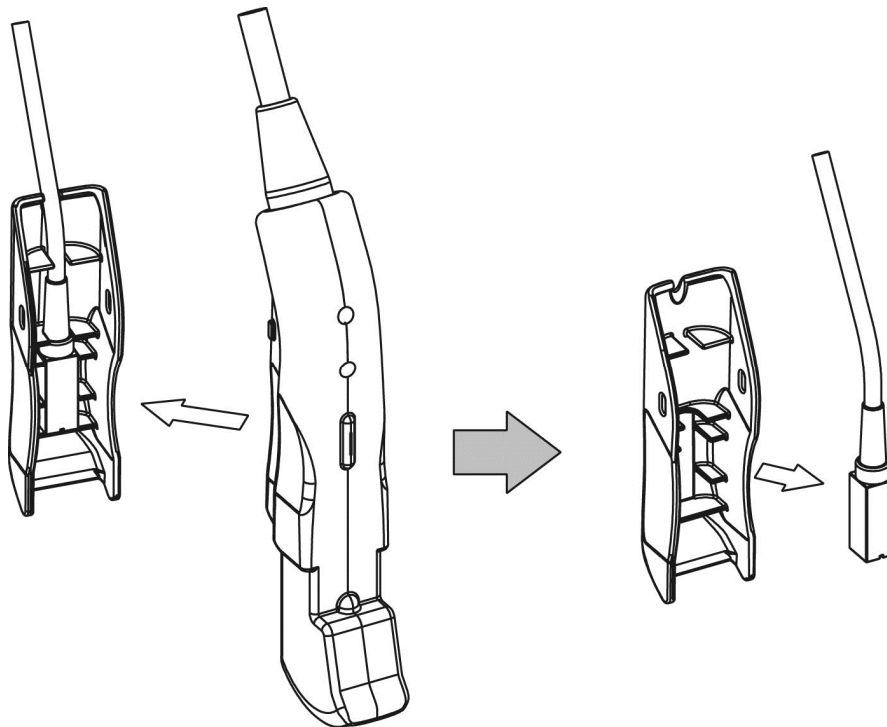

Fig. 20 How to release the Magnetic Sensor from the groove of the probe
- 2) Release the Magnetic sensor from the groove of the attachment as shown in Fig. 20.